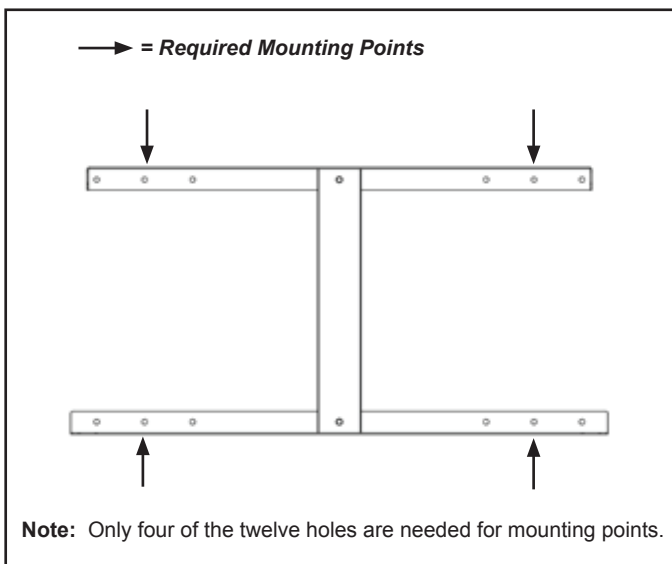

Figure 4.1 Mounting Bracket
- Mark four locations on the wall that correspond to the four required mounting points in the bracket. See Figure 4.1.